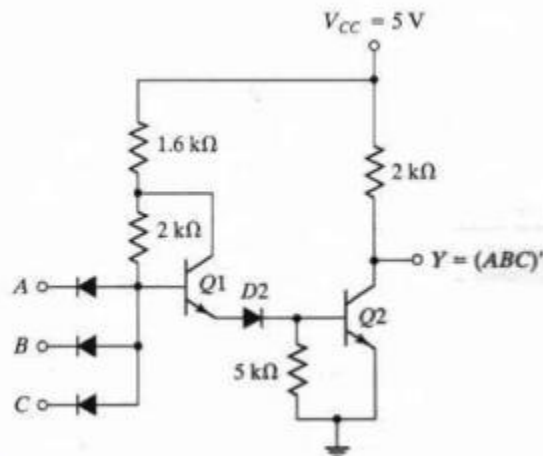

Fig 6. Modified DTL gates
- The fan-out of a DTL gate may be increased by replacing one of the diodes in the base circuit with a transistor shown in figure 6